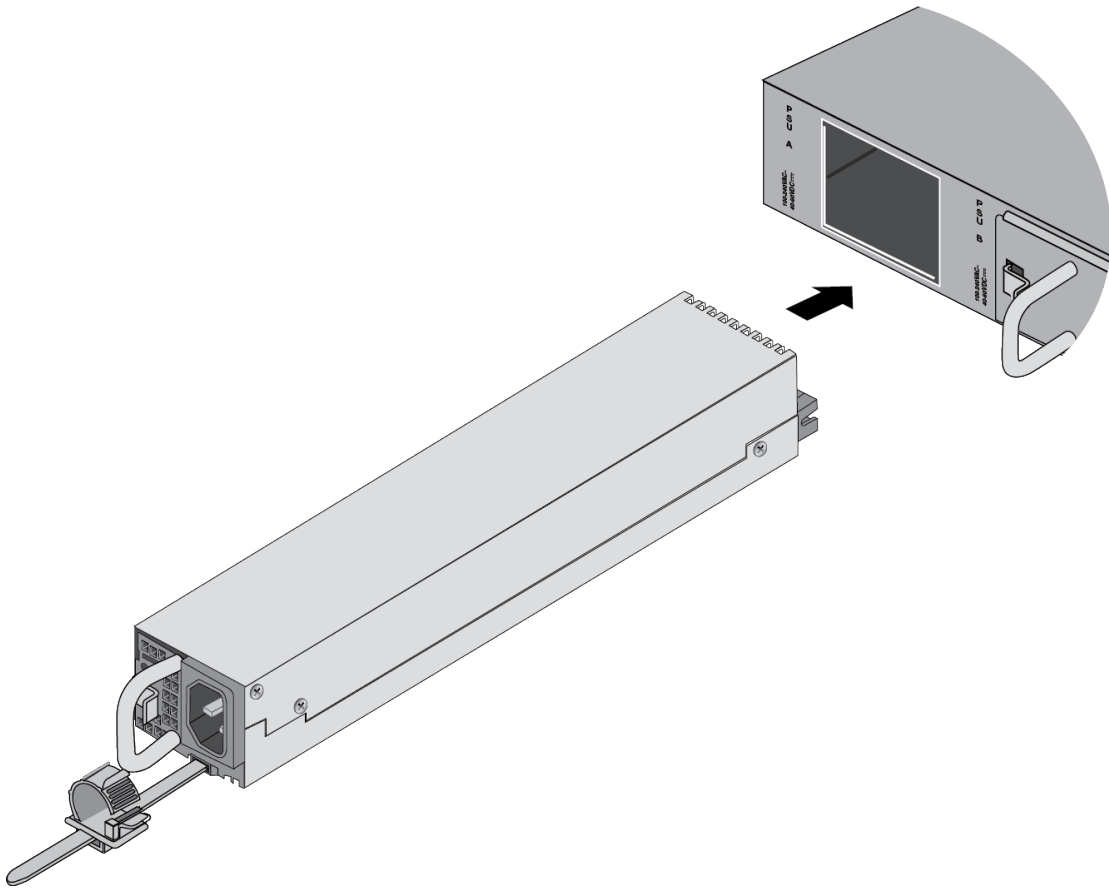

Figure 38. Sliding the PWR600 AC Power Supply into the Chassis
3. Carefully align the power supply in the slot and slide it into the slot. Figure 38 on page 88 shows the module aligned for the PSU A slot.